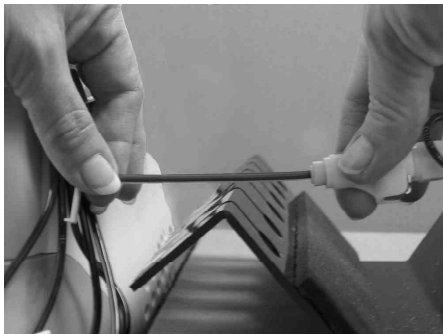

Fig. 3
- a. Hold the female connector of the black bag and 3-4 inches of tubing above the corresponding position in the ink rack. See Fig. 3.